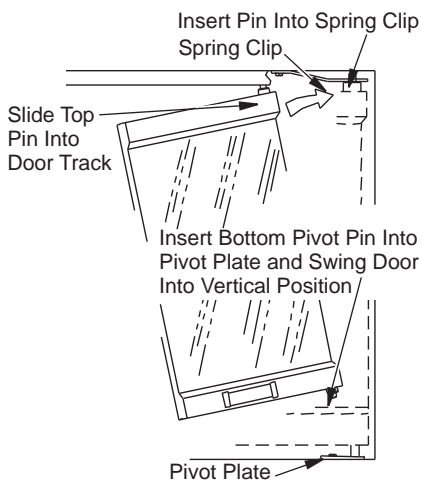

Figure 35 - Installing Optional Glass Door
2. With handle facing center of firebox opening, insert lower pivot pin on glass door panel into hole in pivot plate on bottom edge of fireplace opening (see Figure 35).
4. Tilt glass assembly fully vertical until outer pivot pin snaps into mounting hole in upper spring clip (see Figure 35).